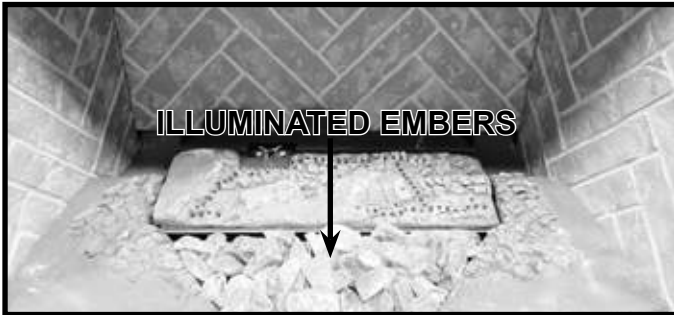

Figure 11.26 Illuminated Embers Installed
1. Pour the provided Stone Media between the left and right base refractories as shown in Figure 11.26.